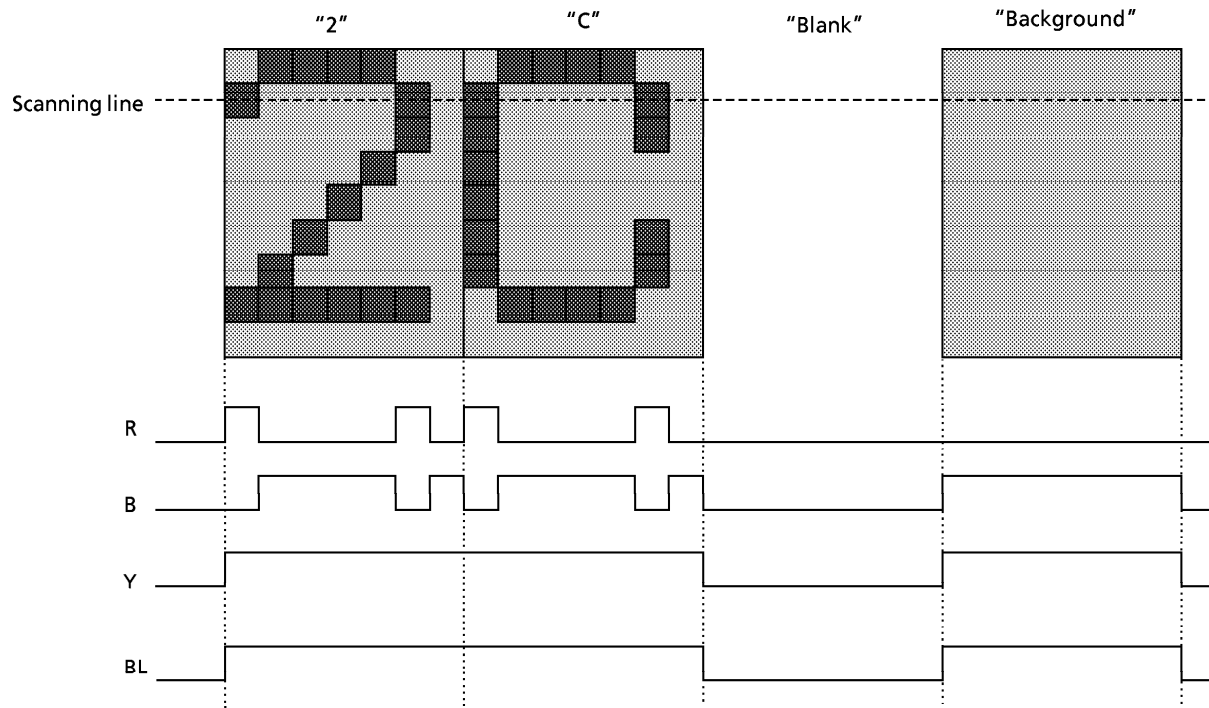
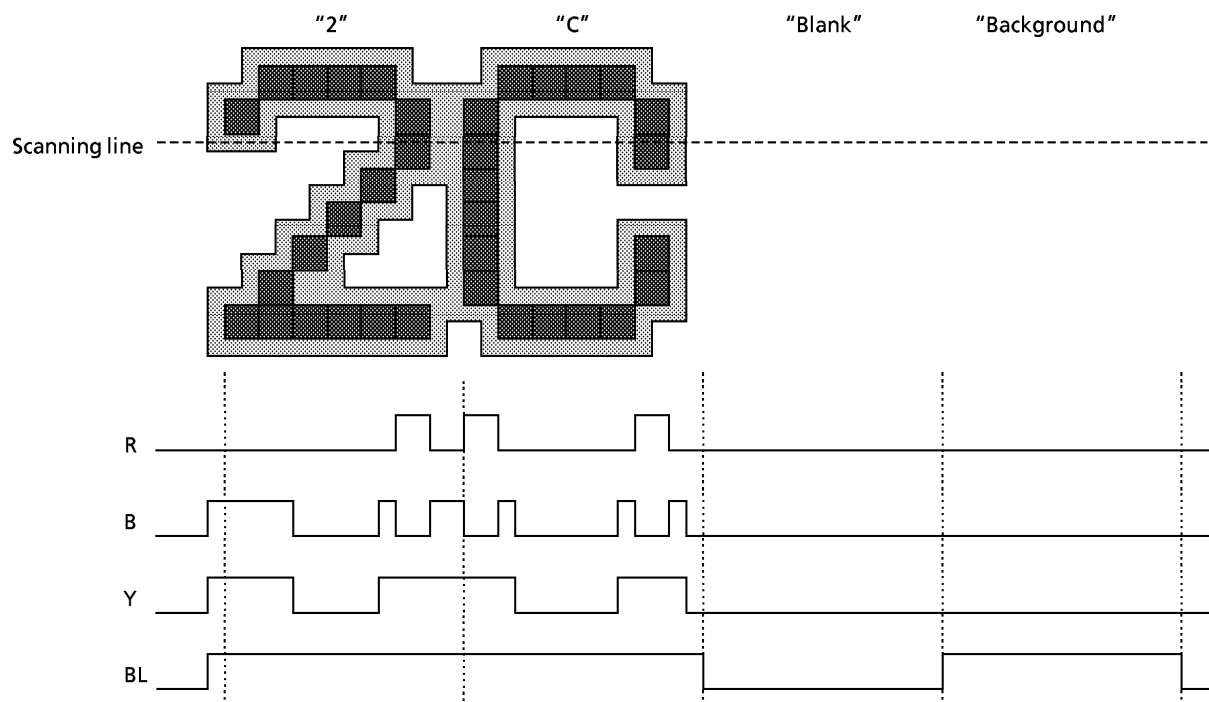

Figure 3-16. Example of OSD Display and Its Wave Form (1)
Figure 3-17. Example of OSD Display and Its Wave Form (2)
Figure 3-16 shows display example (1). The conditions for this example are as follows:
- ① Display data: 2, C, blank data (character code 7F_H), background (character code 7E_H).
- ② Color data: RDT = 1, BDT = 0, GDT = 0.
- ③ Background color data: BRDT = 0, BBDT = 1, BGDT = 0.
- ④ Fringing and smoothing disabled.
- ⑤ This screen display example is controlled by the R, B and BL signals.
Figure 3-17 shows display example (2). The conditions for this example are as follows:
- ① Display data: 2, C, blank data (character code 7FH), background (character code 7EH).
- ④ Fringing enabled and smoothing disabled.
- ⑤ This screen display example is controlled by the R, B and Y signals.